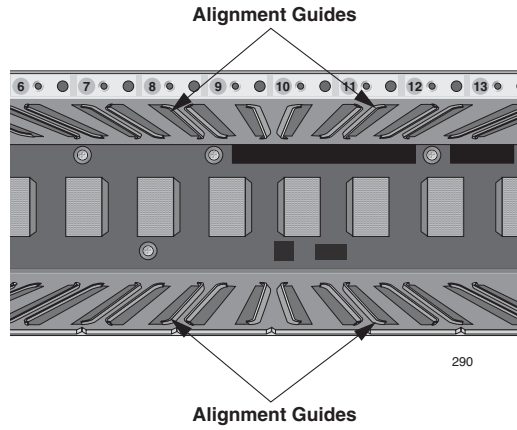
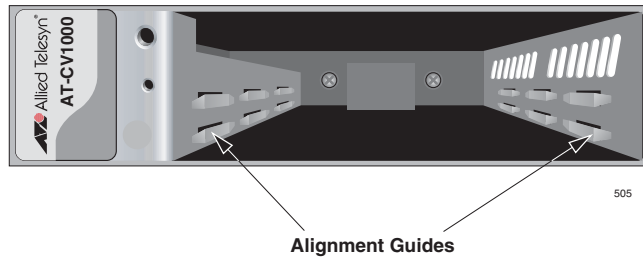
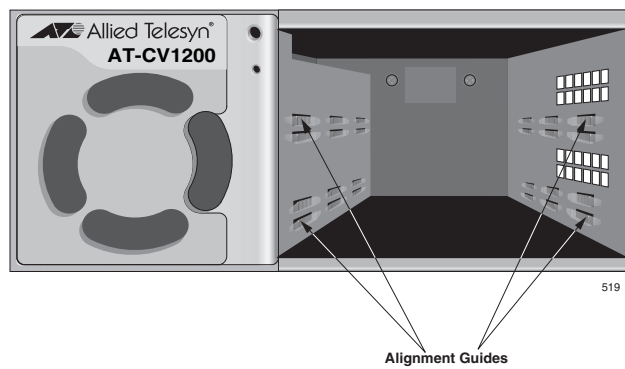

Figure 17. AT-CV5000 Chassis Alignment Guide Locations
Figure 18. AT-CV1000 Chassis Alignment Guide Locations
Figure 19. AT-CV1200 Chassis Alignment Guide Locations
4. Locate the alignment guides inside the line card slots, as shown in Figure 17, Figure 18, and Figure 19.